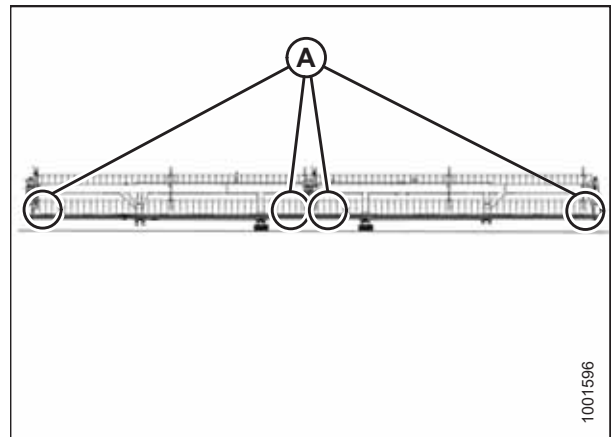

Figure 6.33: Double-Reel Measurement Locations
- Figure 6.33, page 75 – double reel